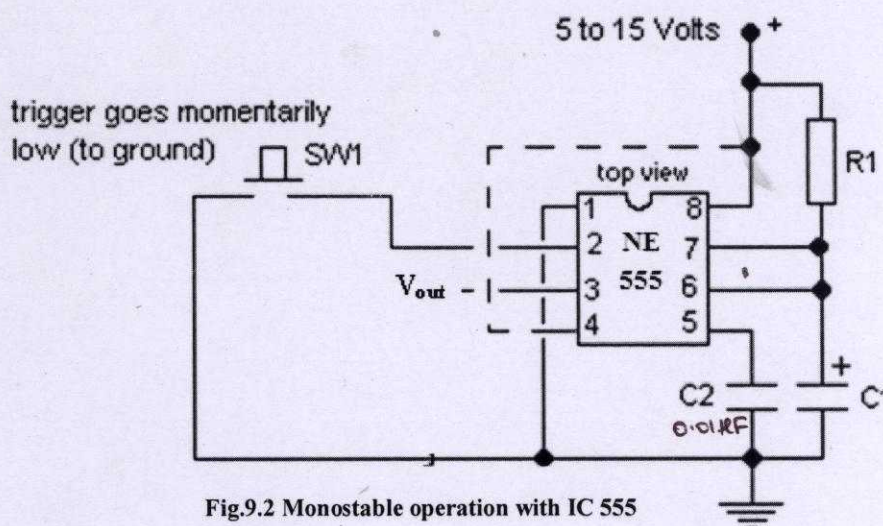

Fig.9.2 Monostable operation with IC 555
3.1 The monostable multivibrator circuit (shown in Fig.9.2) produces a single output pulse when triggered. The duration of the pulse is called the **time period** (T) and this is determined by resistor R_1 and capacitor C_1 . The time period is given by